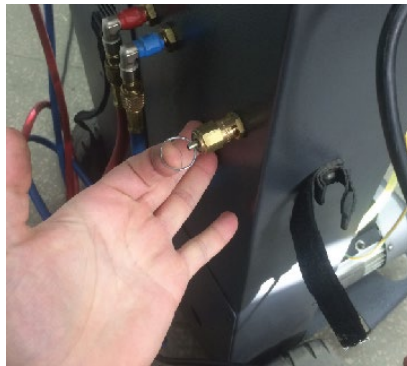

Figure 20. Discharge valve of the filling station
- 6.2. Remove the non-condensed impurities through a special valve (Fig.20) as prescribed in the corresponding Manual for the filling station.